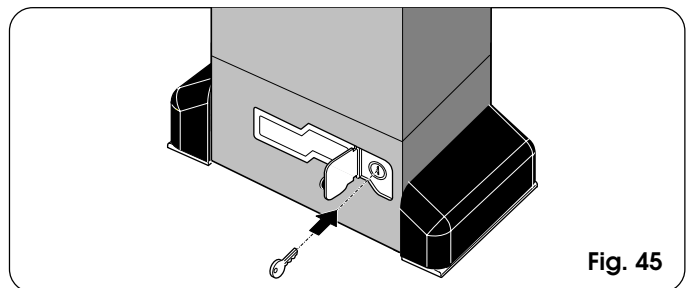

Fig. 45
- 1) Open the protection door and fit the supplied key in the lock (Fig. 45).